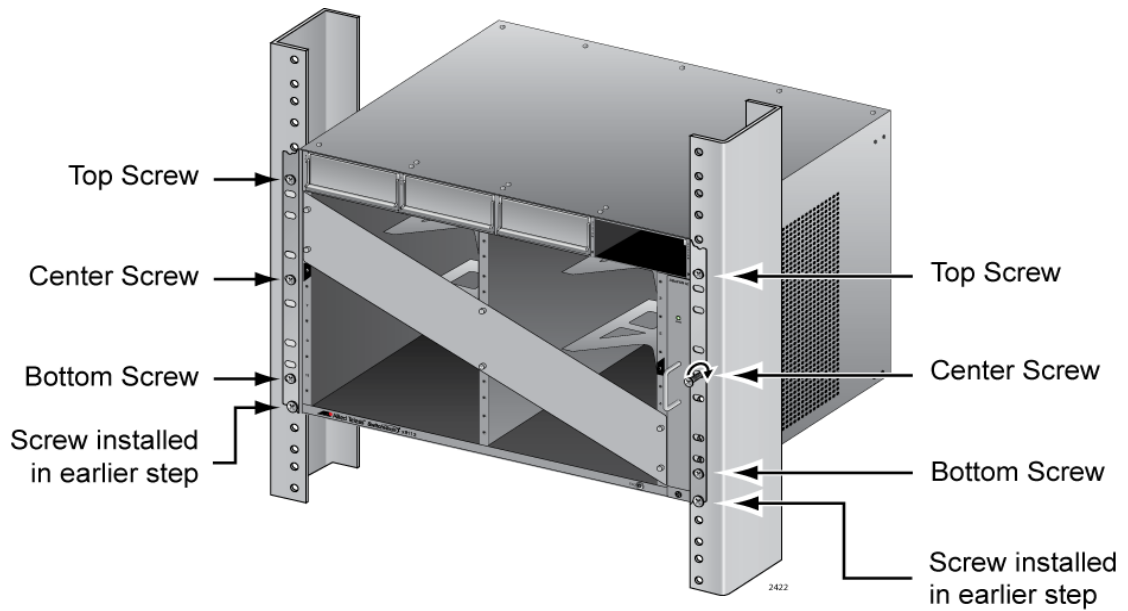

Figure 36. Installing the Rack Mount Screws
4. Install six rack mount screws (not provided) to secure the chassis to the equipment rack, as shown in Figure 36 on page 82.